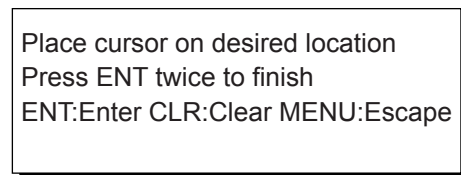

Figure 5-3
- 2) Press **1** to select Cursor. The display shown in Figure 5-3 appears.